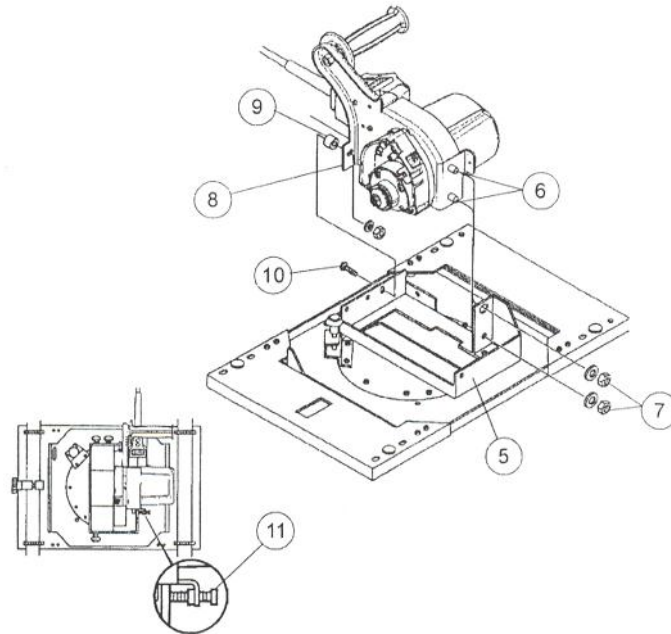

Figure 5: Mounting the Saw Motor (Models C4, C5, H4, H5, H6)
2. Mount the motor to the carriage by inserting the studs (6) on the saw motor through the holes in the turntable (5). See Figure 5. Install the washers and nuts (7), and hand-tighten only.
3. The bracket (8) that extends from the saw handle has a single hole. Place the spacer (9) between the bracket on the base and the bracket on the saw handle. Align that hole with the hole in the turntable as shown in Figure 5, and insert the bolt (10). Install the nut, and hand-tighten only.
4. Make sure the screw (11) on the saw motor plate is flush against the turntable bracket as shown, to ensure the saw is square. This screw (11) is factory-set and does not require adjustment when the tool is being installed.
5. Tighten the **two bottom nuts first (7)**, and the top nut (10) last.